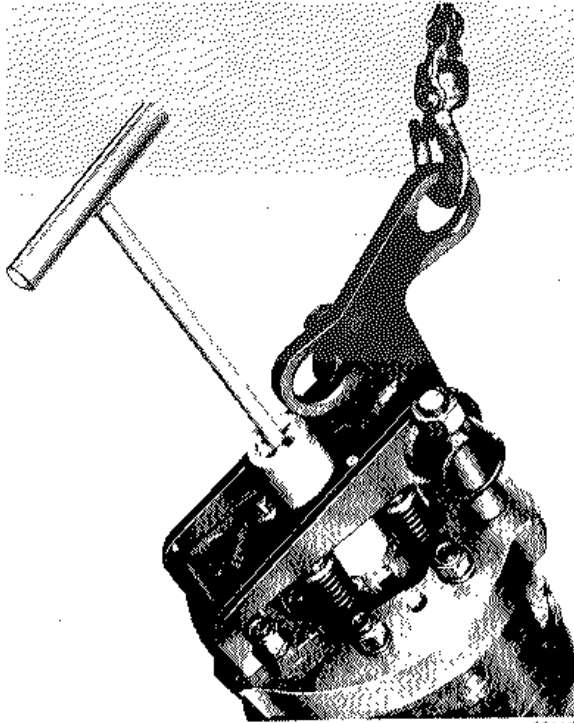

Fig. 5-13 - Installation Of Top Compression Ring
5. Apply the compression rings to the piston beginning with the bottom compression ring and ending with the No. 1 compression ring, Fig. 5-13. A ring marked "TOP GROOVE ONLY" must be installed in the No. 1 compression groove only.